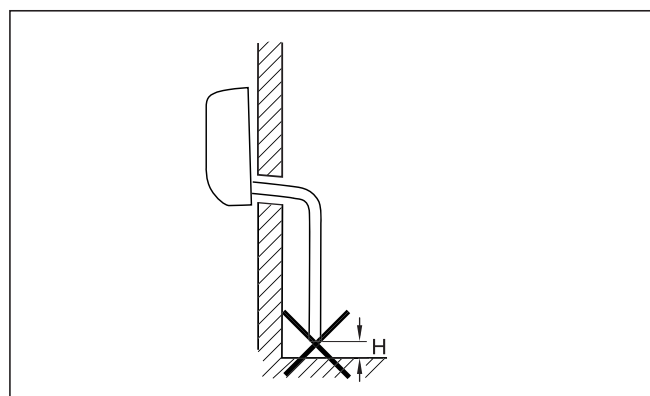

Fig. 9.5 Minimum distance from the floor.
- For drain pipes run to ground level outside, install the condensed water pipe in such a way that the distance of its free end from the floor is at least 5 cm (see Figure 9.5).